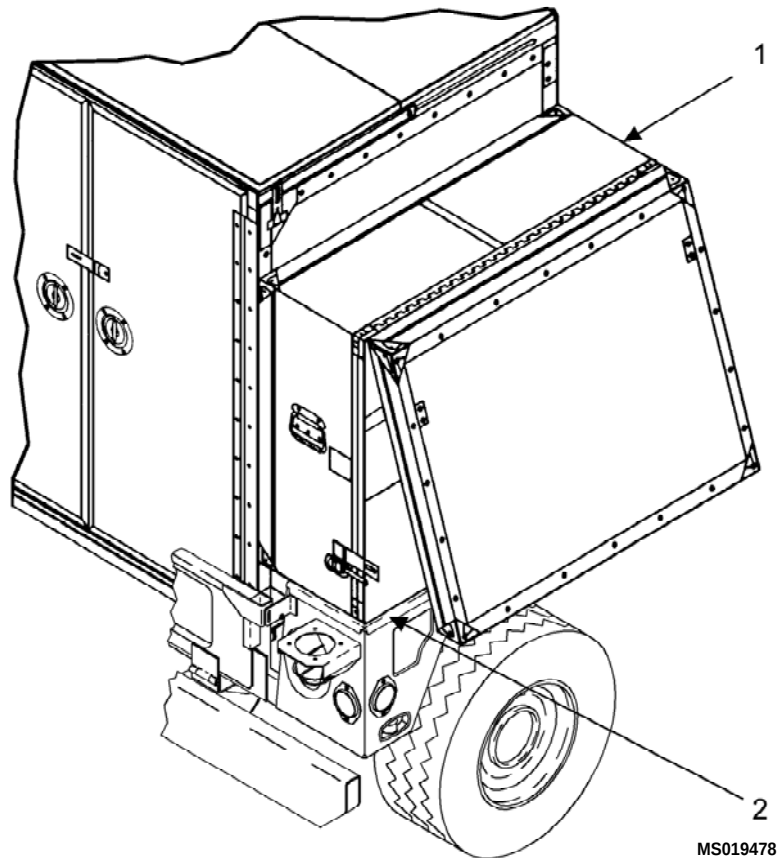

Figure 5. Side Box Positioning
6. Position left and right side boxes (1) on side box pads (2) on top of wheel wells of HMMWV. (Figure 5)